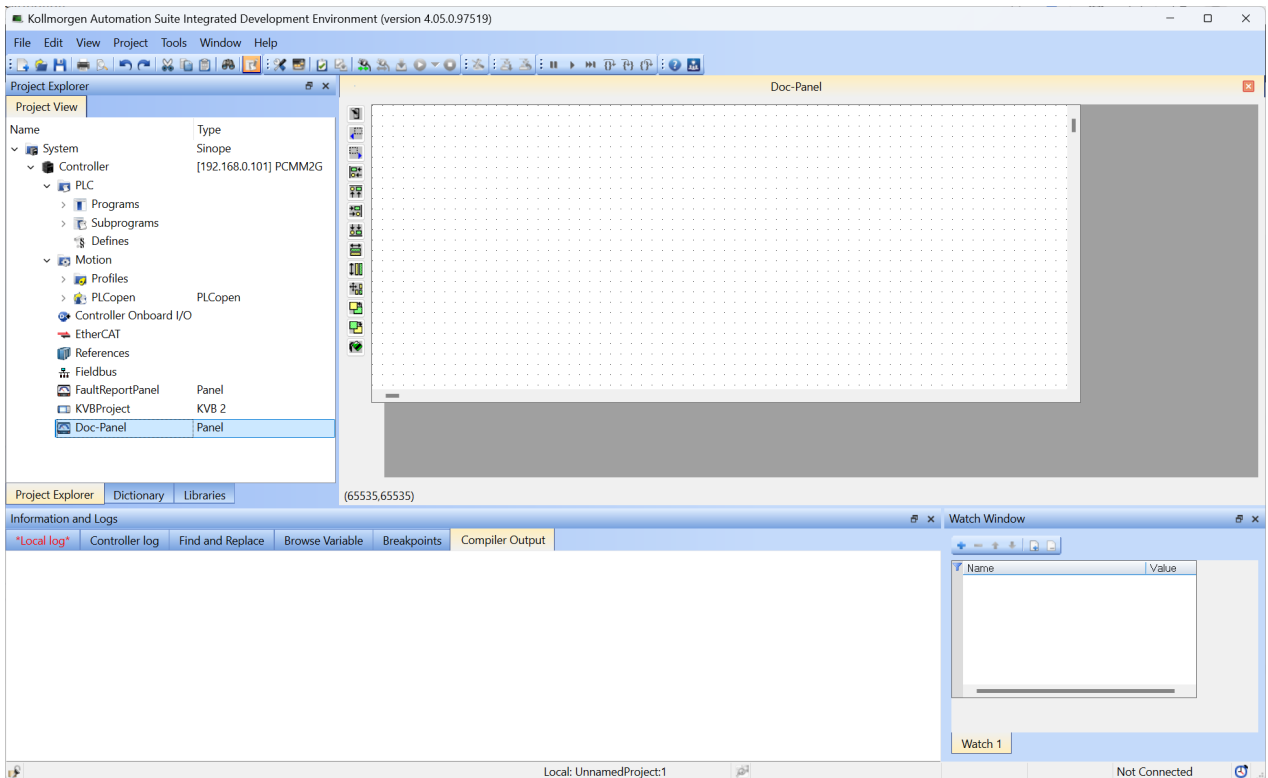

Figure 2-4: New Control Panel
5. In the Project Explorer tree, double-click the new Control Panel to open it in the KAS-IDE graphical editor. (Figure 2-4)